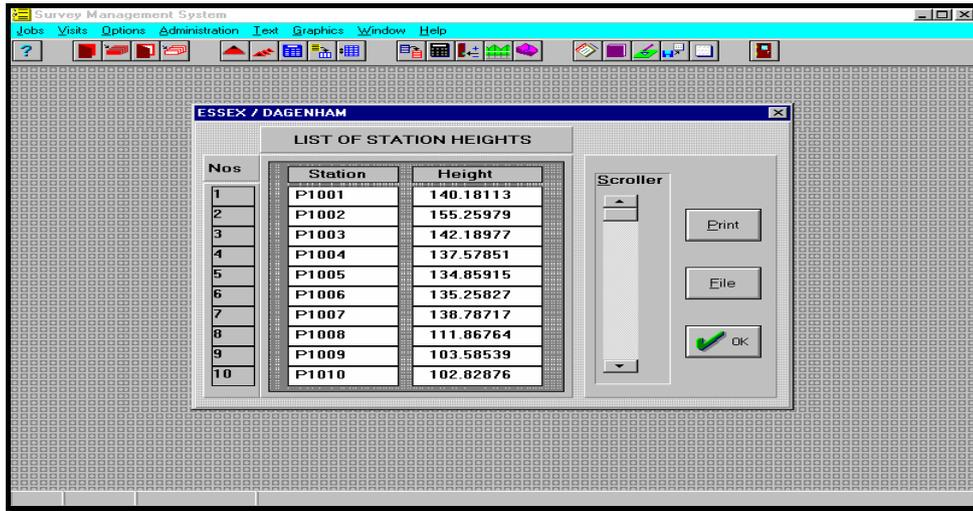

Fig 4.10
- Select Stations to list all station results, Fig 4.10.